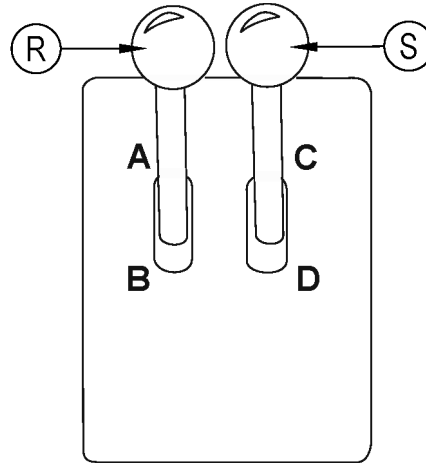

FIGURE 9
The right side broom lift (H) and power control is located on the right side of the instrument panel. To raise and stop the side broom, grasp the lever and push the lever to the locking notch, marked with the “UP” arrow. To lower the side broom, grasp the lever, push it up and to the left, away from the locking notch. Let the lever lower -until it rests by the “DOWN” arrow. The broom will automatically begin rotating as it is lowered. To turn “ON” the side brooms, move the Hopper Lift/Side Broom Lever forward to the “ON” position (See Figure 9).
HOPPER LIFT / SIDE BROOM LEVER (See Figure 9)
HOPPER DUMP/RETURN CONTROL LEVER (See Figure 9)
The left side broom lift control (V) is located on the left side of the instrument panel. To raise and stop the side broom, grasp the lever and push the lever to the locking notch with the "UP" mark. To lower the side broom, grasp the lever and push it up to the right away from the locking notch. Let the lever lower until it rests by the "DOWN" mark. To turn "ON" the side brooms, move the Hopper Lift/Side Broom Lever (R) FIGURE 9 forward to the "ON" position.